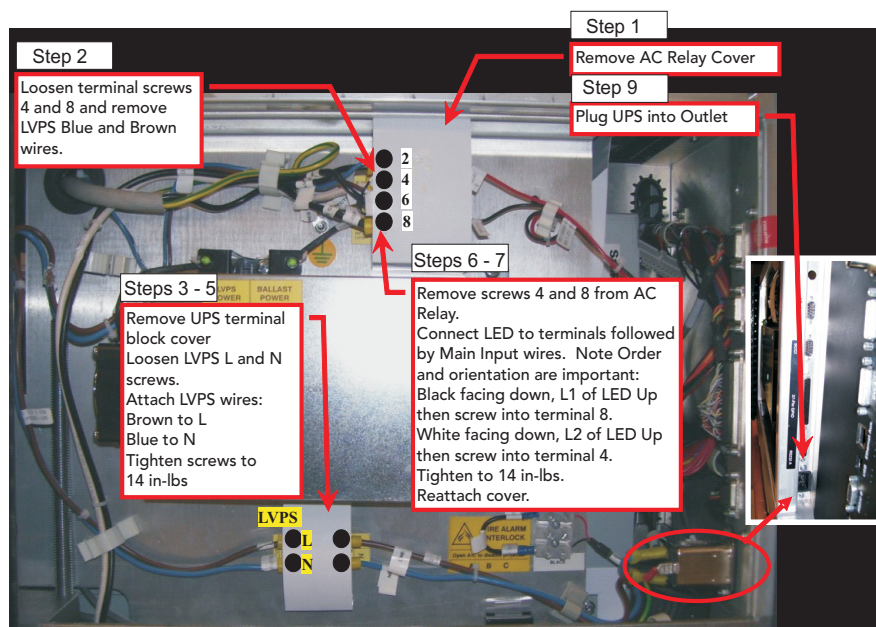

Figure 2-18 Re-wiring for UPS
5. Take the Brown and Blue wires that were previously attached to the AC Relay and attach them to the LVPS terminal. Attach the Brown wire to the L terminal and the Blue wire to the N terminal as shown in **Figure 2-18**. Torque screws to 14 in/lbs. Use clips to secure wires. Reattach cover.